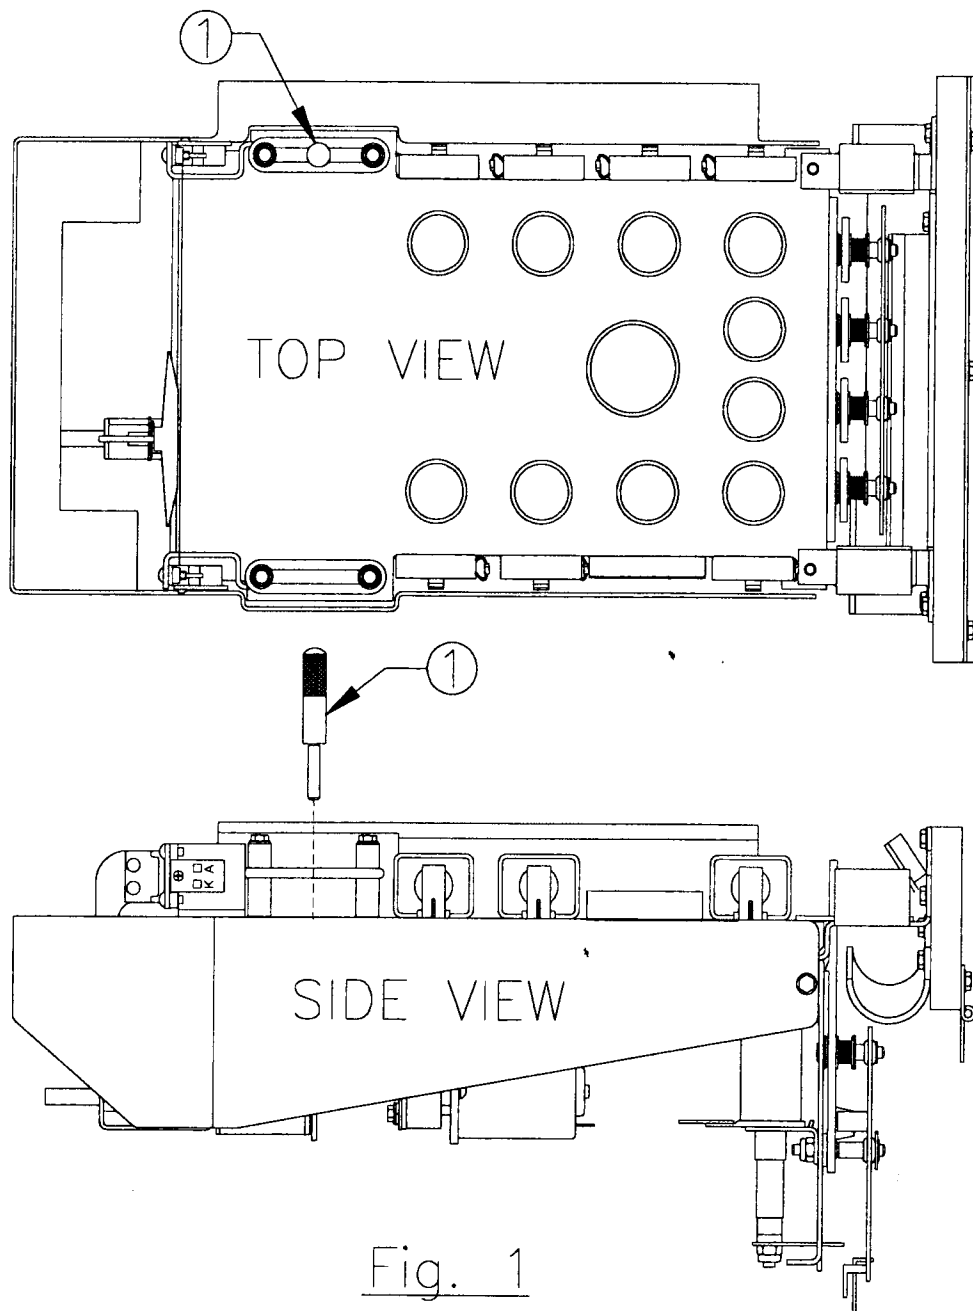

Fig. 1
1. Unscrew thumb screw (Item 1) from the mini-playfield. (See Fig.1) This may be tight the first time it is removed. A straight blade screwdriver may be necessary to remove the thumb screw. Subsequent removals and insertions may be done with just your fingers.